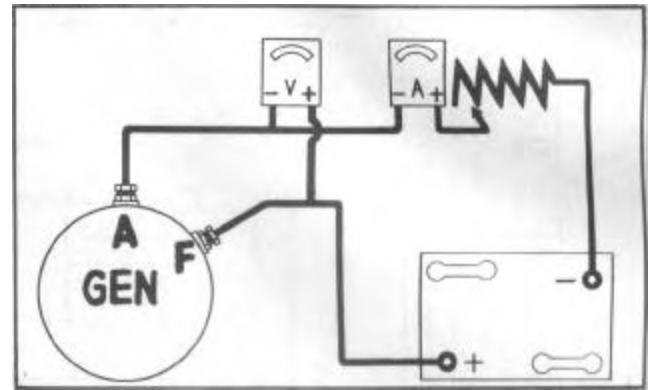

FIGURE 9
1. Connect ammeter, battery and variable resistor in series with the field coil terminals, (Figure 9).